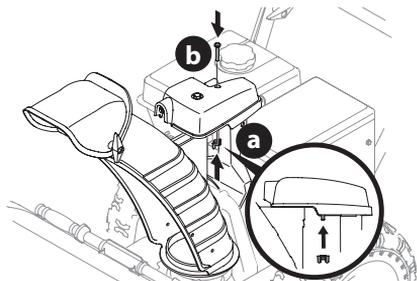

Figure 15
3. Finish securing chute control head to chute support bracket with wing nut (a) and hex screw (b) removed in Step 1 (Figure 15).